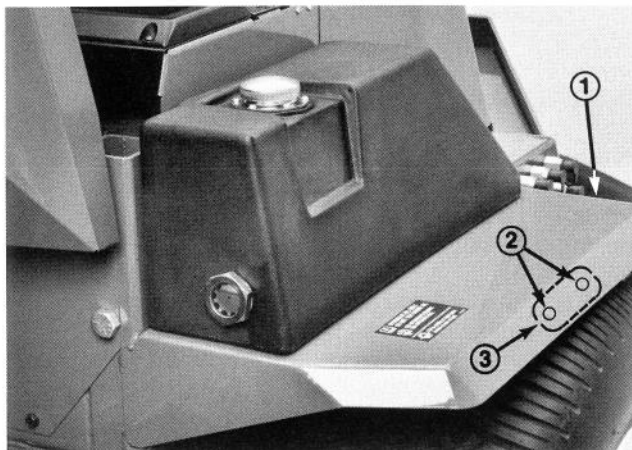

Figure 13
1. Center a rectangular reflector in the lip of the fender and center punch each reflector mounting hole (Fig. 13).
2. Drill 7/32 in. holes and secure reflector to fender with 10-24 x 1/2 in. machine screws and keps nuts (Fig. 13).